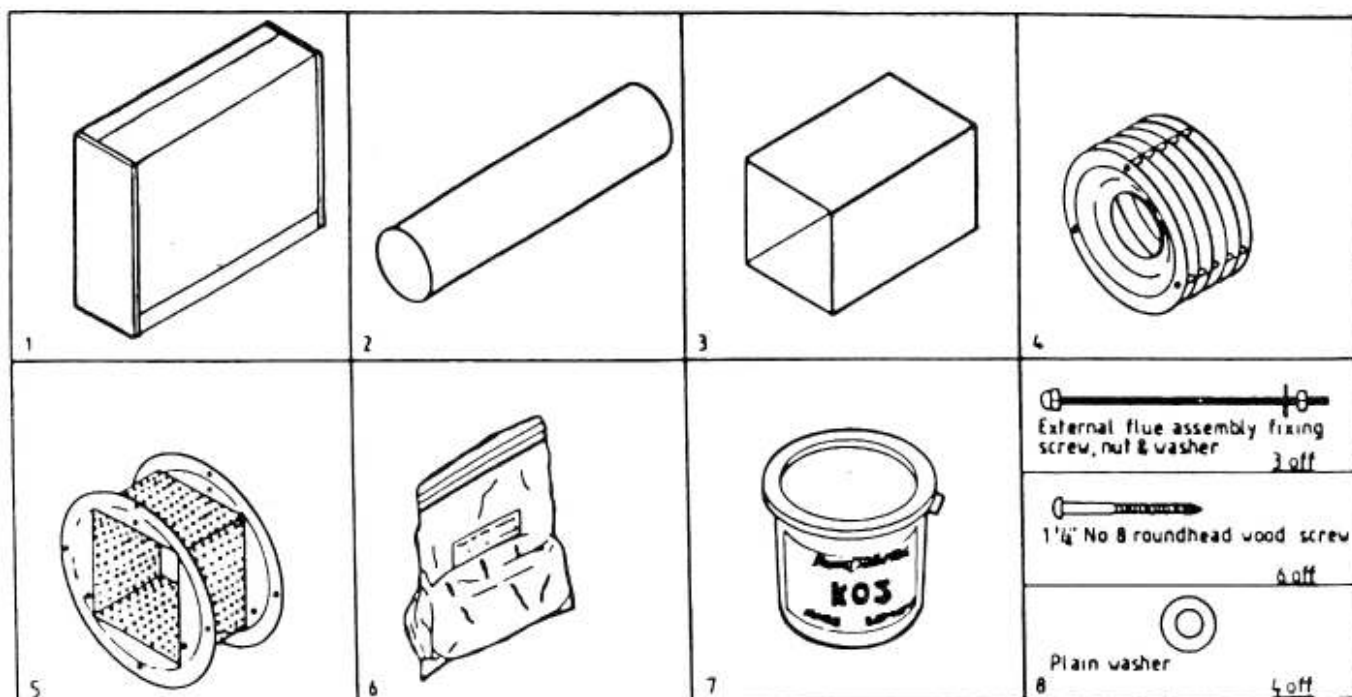

FIG.1
Identify the various components from Fig. 1 and check to ensure that they are complete and undamaged.
- 7.10** From outside the building, insert the air duct (Fig. 1 item 3) through the hole and locate it onto the square spigot at the rear of the heater; push the air duct fully onto the spigot.